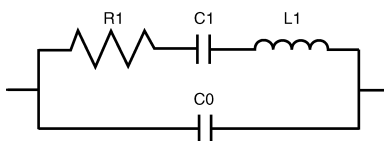

Figure 13. Crystal Equivalent Circuit
1. Load Capacitance: For resonance at the correct frequency, the crystal should be loaded with its specified load capacitance, which is the value of capacitance used in conjunction with the crystal unit. Load capacitance is a parameter specified by the crystal, typically expressed in pF. The crystal circuit shown in Figure 13 is composed of:
The C_L above does not include the crystal internal self-capacitance C_0 as shown in Figure 13, so the total capacitance is: